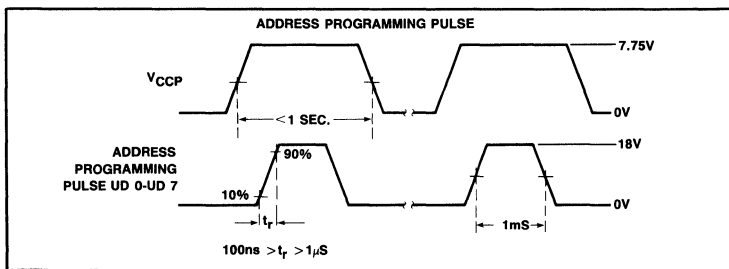

Figure 1
3. After V_{CC} has stabilized, apply a single programming pulse to the user data bus bit where a low-level match is desired. The voltage should be limited to 18V; the current should be limited 75mA. Apply the pulse as shown in Figure 1.